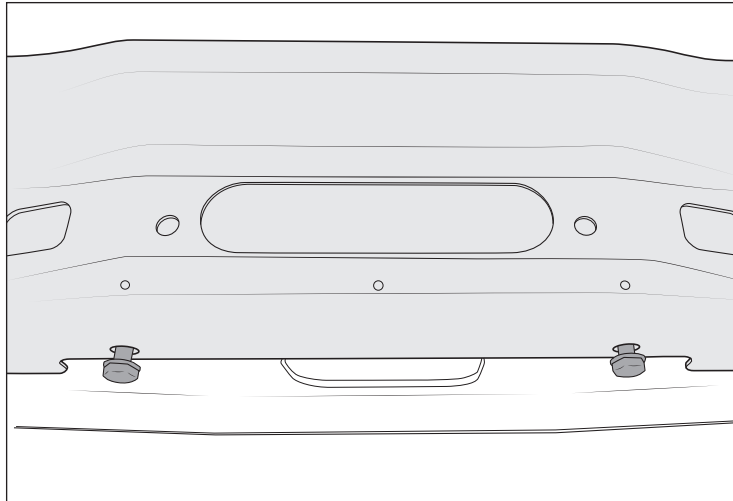
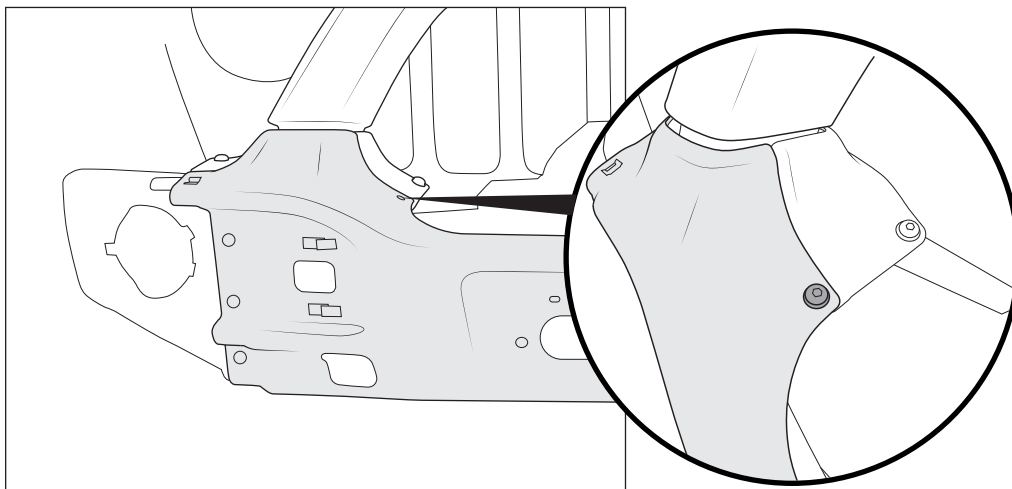

Figure 17
Figure 22
7. Install black M10x25 bolts and washers from winch kit through the bottom of the fairlead stamping section and into the weld nuts in the winch plate. Snug the bolts to lock the winch plate into final installed position. Torque M10 bolts and nuts holding winch plate to support brackets to 30 ft-lb, then torque lower bolts into compatibility beam rivnuts to 30 ft-lb, making sure that the skidplate mounting brackets (if applicable) are pushed up tight to bottom of compatibility beams (fig. 17).
- C. Install center section onto front of vehicle. It should pass over the offset front portion of the tube closeout stampings. Center can be retained by passing black M8x25mm button head bolts with washers through the top inboard holes and through the tube closeout stamping. Loosely install black flange nuts from the back side (fig. 22). If using AEV winch plate, remove then reinstall black M10x25 bolts and washers from winch kit through the bottom of the center section and into the weld nuts in the winch plate (see fig. 17).